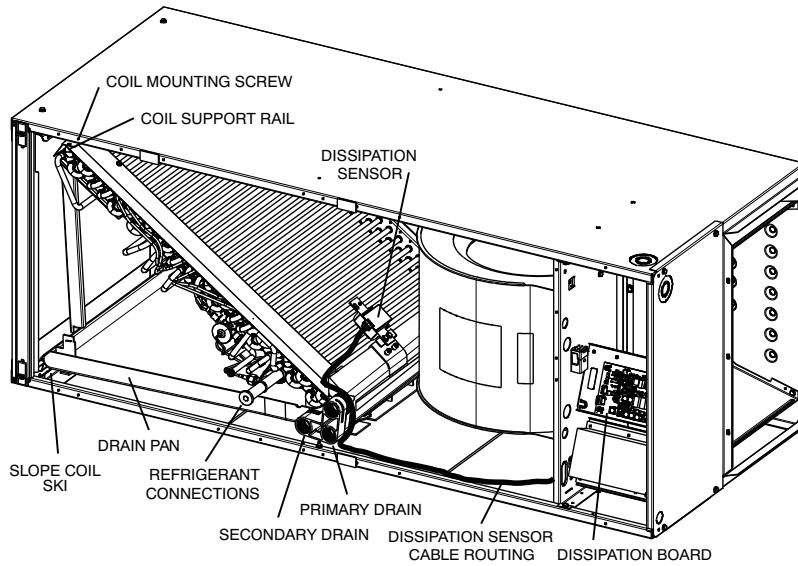

Fig. 4 – Conversion for Horizontal Right Applications - Slope Coil Only
1. Remove blower and coil access panels and fitting panel (Fig. 4).
6. Lay fan coil on its right side and reinstall coil assembly with condensate pan down (Fig. 4).
8. Reconnect sensor wire harness by following routing shown (Fig. 4).